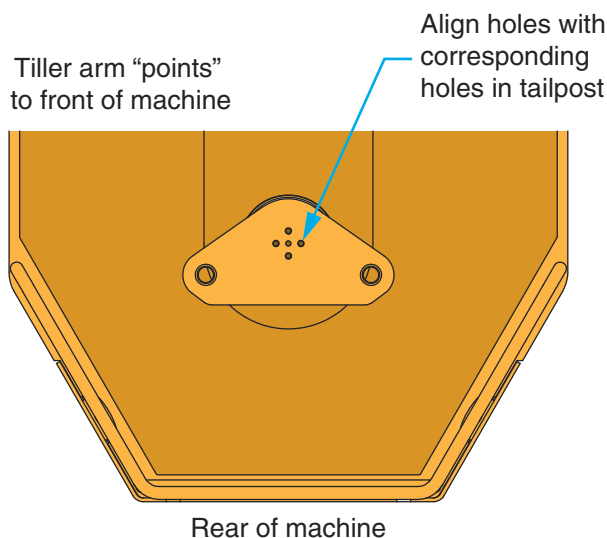

Figure 11 Tiller Arm Orientation
14. Install the tiller arm. Ensure the tiller arm is properly oriented (it should "point" to the front of the machine), and that the bolt holes align with the corresponding holes in the tailpost. See Figure 11.